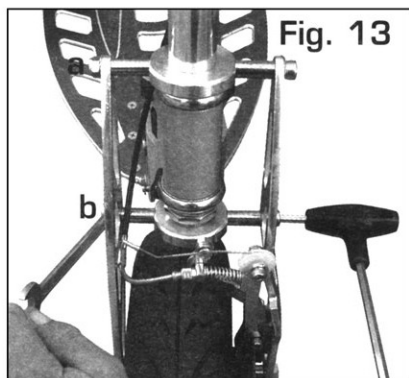

Fig. 13
1. Loosen (a) and Remove the long bolt (b) shown on Fig. 13.